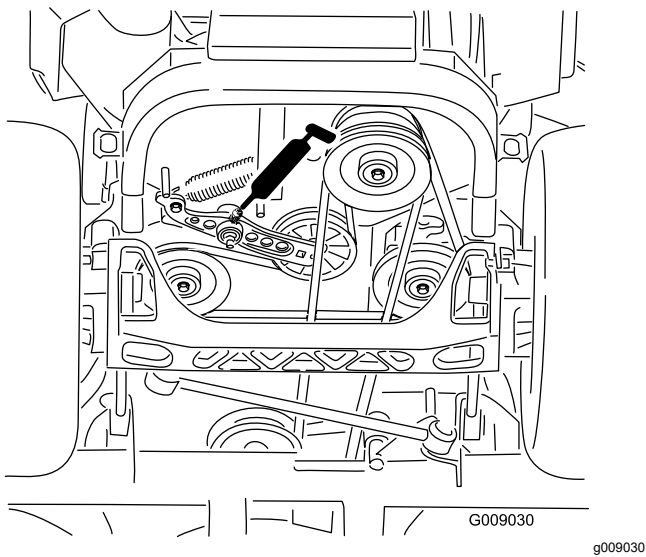

Figure 45
5. Grease the drive-belt idler arms (Figure 45).